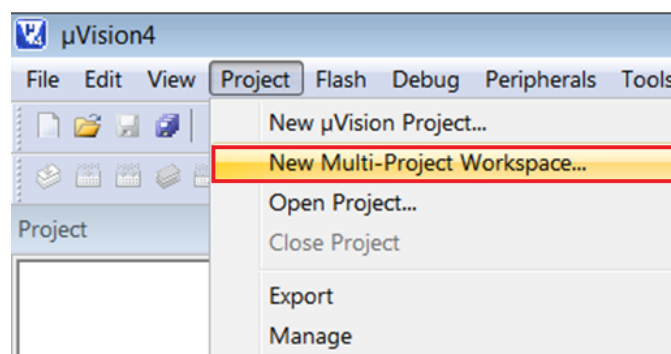

Figure 2.19: Keil IDE: Create New Multi-Project Workspace
2. Click Project → New Multi-Project Workspace (see Figure 2.19).